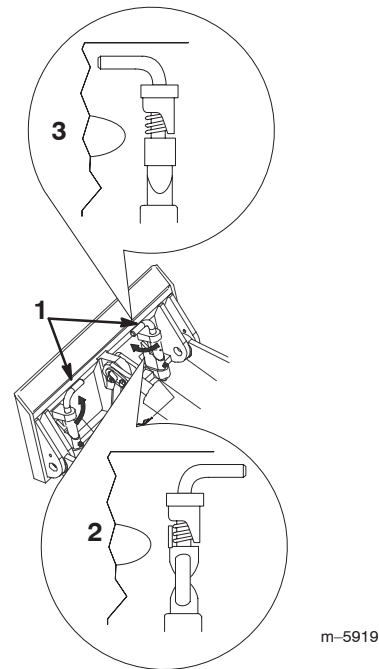

Figure 17
- Engage the quick attach pins, ensuring that they are fully seated in the mount plate (Fig. 17).